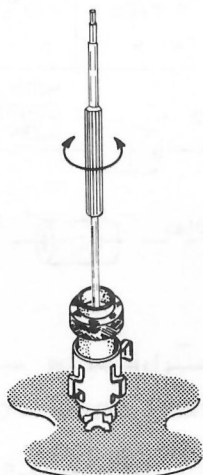

Figure 3-56
- ( ) Using the plastic alignment tool, turn the slug inside the coil slowly clockwise (as in Figure 3-56) and note the change in waveform.